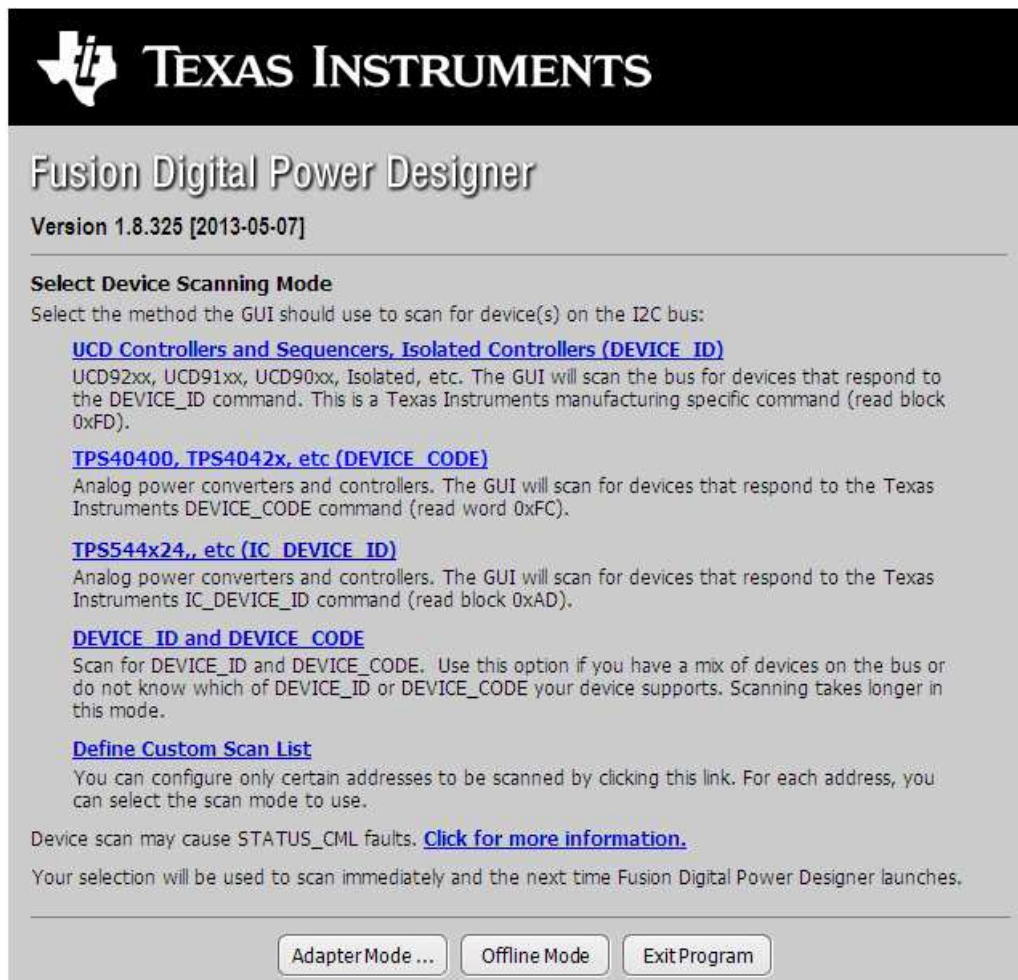

Figure 4. Select Device Scanning Mode
9. Double click on the *TPS40400, TPS4042x, ect (DEVICE CODE)* from the *Select Device Scanning Mode* window as shown in Figure 4.